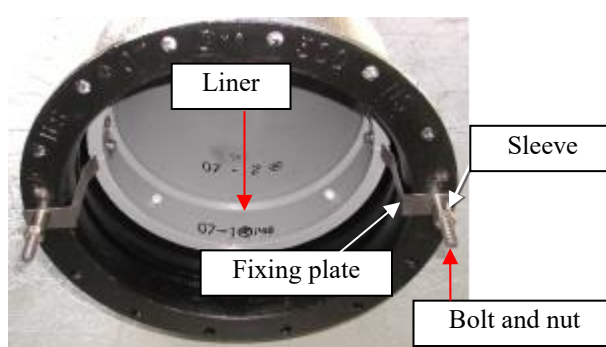

Figure-32 Liner fixing jigs
- 5) If the socket is tilted downward, the liner may fall from the socket. Retain the Liner in place with the Liner fixing jigs (consisting of the fixing plate, the sleeve, the bolt and the nut). (See Figure-32.)